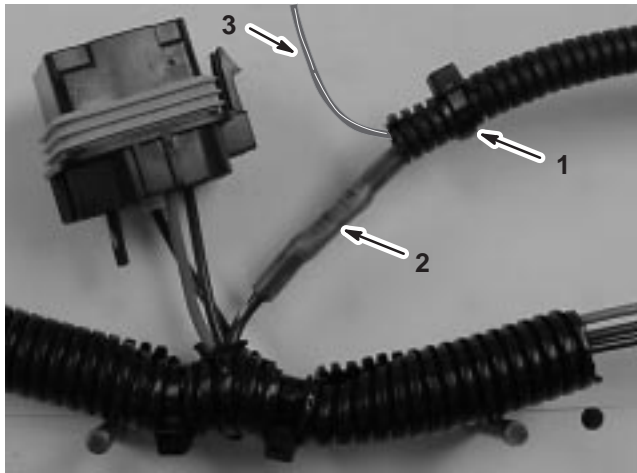

Figure 18
- Splice the brown wire with the white stripe to the splice connector on the module wiring harness, using a heat shrink tube to seal them together (Fig. 18).